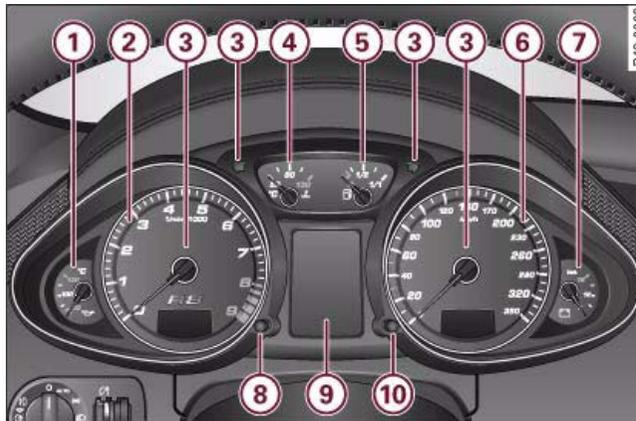

Fig. 2 Instrument cluster
The engine oil temperature gauge ⇒ fig. 2 only works when the ignition is switched on. In order to avoid possible damage to the engine, please read the following notes for the different temperature ranges.
Never allow the rev counter needle \Rightarrow page 10, fig. 2 ② to go into the red zone on the scale for more than a very brief period: there is a risk of damaging the engine. The start of the red zone on the dial is different for some engine versions. ■
When the ignition is switched off, the display illumination can be switched on for a few seconds by pressing the adjuster/test button ⇒ page 10, fig. 2 ⑧. ■
The coolant temperature gauge ⇒ page 10, fig. 2 ④ only works when the ignition is switched on. In order to avoid possible damage to the engine, please read the following notes for the different temperature ranges.
When the ignition is switched off, the illumination of the mileage recorder can be switched on for a few seconds by pressing the adjuster/test button ⇒ *page 10, fig. 2* .